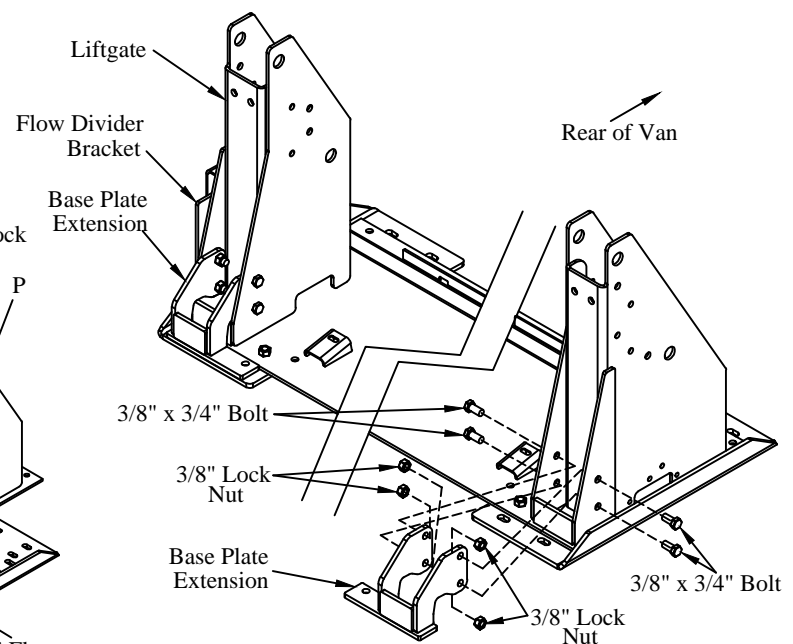

Figure 11: Bolt bracket extensions to liftgate. Parts removed for clarity.
8. **Position** the base plate extensions on the 1/4" floor supports (Figures 11).
9. **Fasten** the base plate extensions to the liftgate using the 3/8" x 3/4" bolts and lock nuts (Figure 11). Reuse existing 3/8" x 1-1/4" bolts on passenger side. These bolts also secure the flow divider bracket.